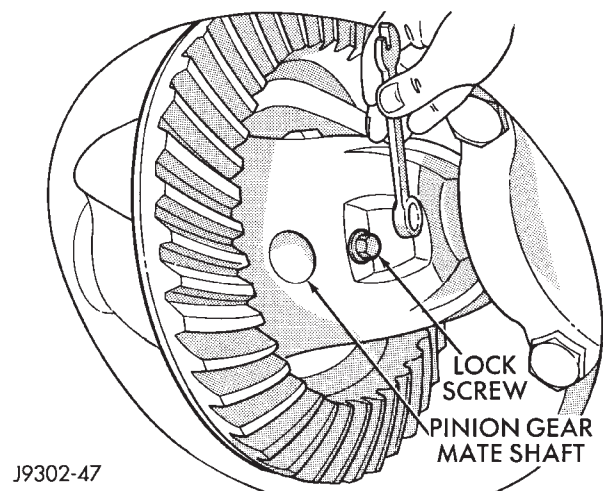
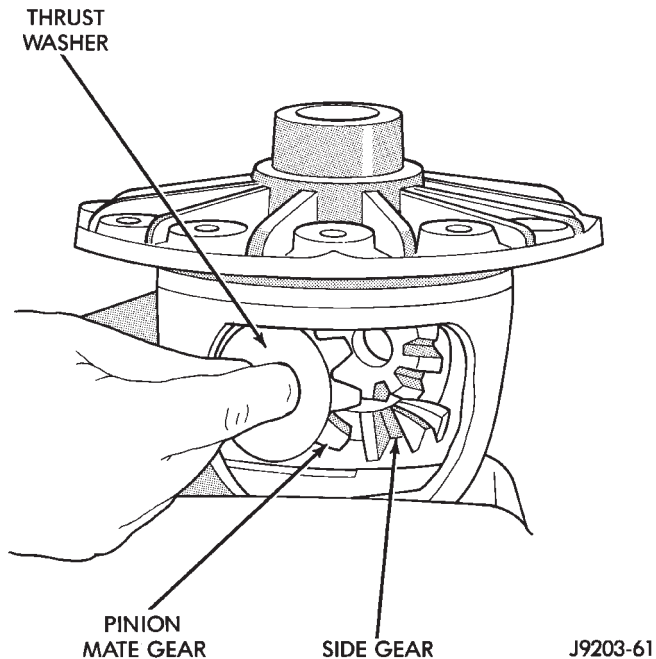

Fig. 60 Pinion Gear Mate Shaft Lock Screw
Fig. 61 Pinion Mate Gear Removal
(1) Remove pinion gear mate shaft lock screw (Fig. 60).
(2) Remove pinion gear mate shaft.
(3) Rotate the differential side gears and remove the pinion mate gears and thrust washers (Fig. 61).